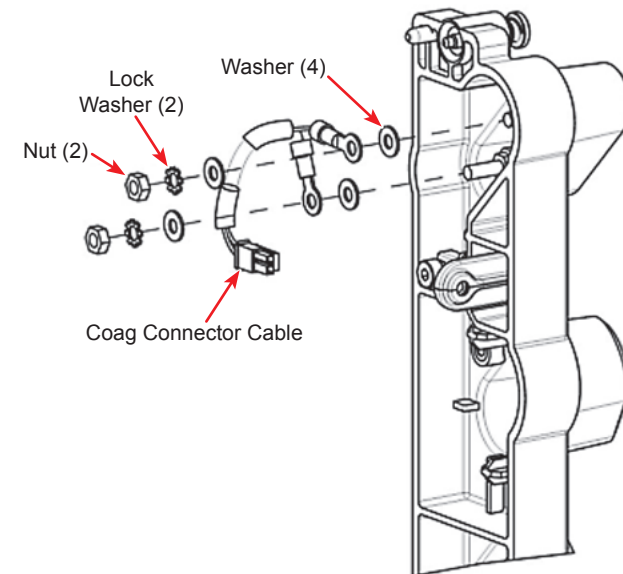

Figure 3-82 Removal of Coag Cable
61.4 From the connector panel, remove nuts and washers securing Coag Connector Cable to two banana jacks (see Figure 3-82).